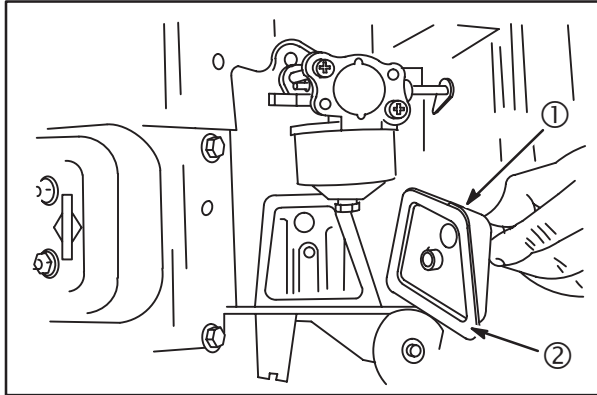

Fig. 5
Remove breather assembly (1). Discard gasket (2), **Fig. 5**.